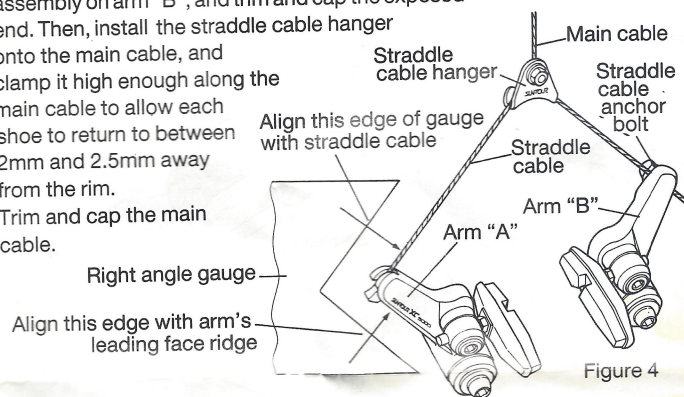

Figure 4
- 4 Install the straddle cable by first inserting the cable head into the cable head socket of arm "A", and then threading the other end of the cable through the cable clamp assembly on arm "B". Shorten the straddle cable until each segment is at right angles to the arm it's connected to (figure 4)* and each shoe is between 2mm and 2.5mm away from the rim (figure 3B.)